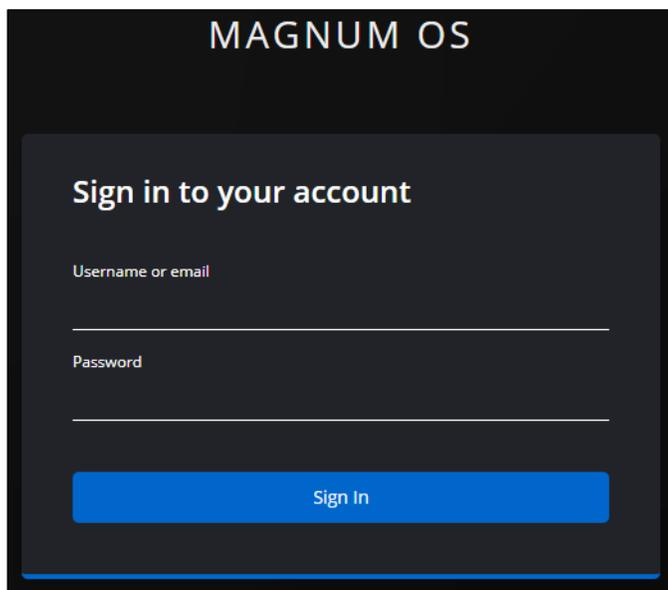

Figure 5-1: MAGNUM-OS Login Screen
2. Type in the Cluster IP for the MAGNUM. The login screen will appear (Figure 5-1).